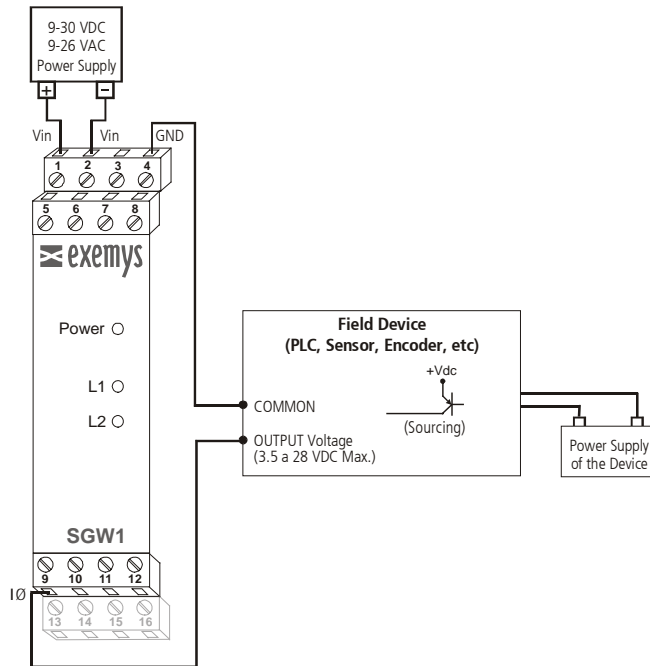

Figure 4 - Digital Input connected to an external device with an independent power supply
- **Case A:** Voltage is self-provided by the external device, that works as a current-sourcing node. (See Figure 4)